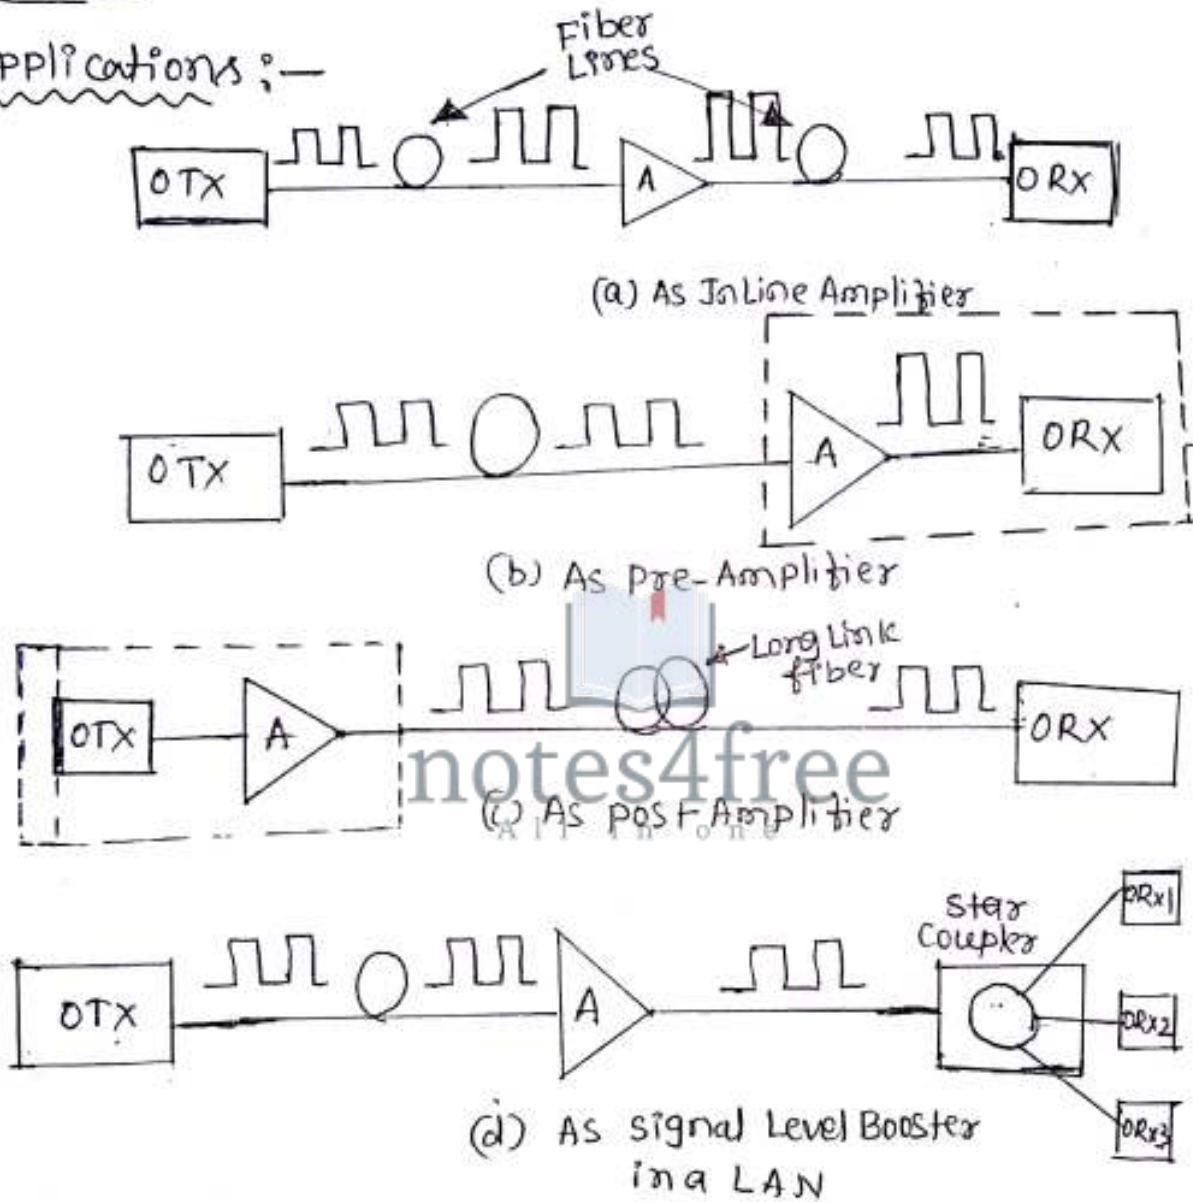

Figure 8.1 : Applications of optical Amplifiers
- Figure 8.1(a), shows the application of optical amplifier as a inline amplifier. This compensates for transmission losses and increases the distance between regenerative repeaters in a single mode link.
- Figure 8.1(b), shows the application of a pre-amplifier for an "optical receiver". Here signal to Noise Ratio (SNR) is improved by amplifying a weak optical signal before photo detection.
- Figure 8.1(c), shows the application of a optical amplifier as a "post amplifier for transmitter". This is placed immediately after the optical transmitter.
- Figure 8.1(d), illustrates the way in which, optical Amplifier is used as a signal level booster in a LAN.